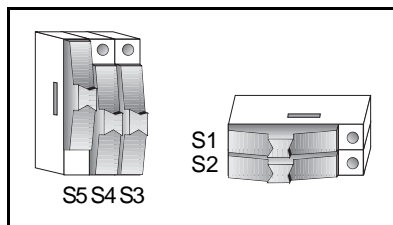

Figure 3. Single-Ended Switch Configuration
To accommodate thermocouples with the AT-MIO-16X and MIO-16E Series boards, the SCB-68 connector block has a temperature sensor for cold-junction compensation. To power the temperature sensor, set switches S1, S2, and S3 as shown in Figures 3, 4, and 5. Notice that this also turns the signal conditioning accessory power on (accessories can include temperature sensors and signal conditioning circuitry). You can configure the temperature sensor as follows:
- For single-ended operation, connect referenced single-ended analog channel 0 to the temperature sensor by switching S5 to the up position. The signal is referenced to analog input ground. Set the switches as shown in Figure 3.